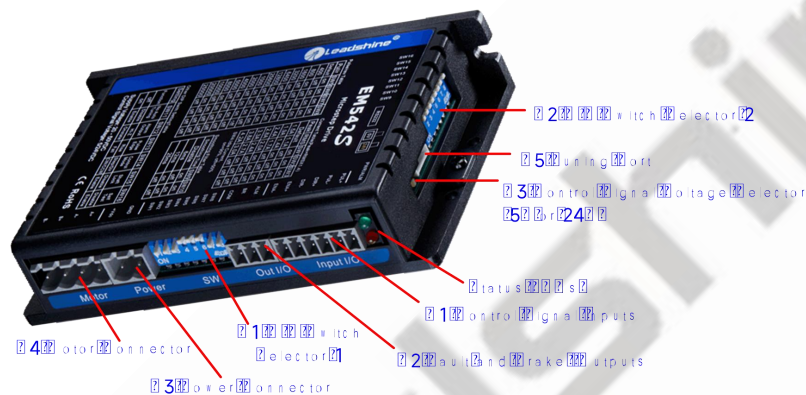

Figure 2 Connectors, DIP switches, and LED locations
DIR- (CCW-)	(6) The activated edge of PUL and DIR is set by DIP Switch SW13 (7) The factory setting of control signal voltage is 24V, must need to set S3 (figure 2) if it is 5V
ENA-	(3) ENA signal requires advance DIR signal minimum 5μs in single pulse mode (4) The default control signal voltage is 24V, to set S3 (figure 2) if it is 5V (5) Enable time to be at least 200ms
The DM542 can accept differential or single-ended control signals (pulse, direction, and enable) in open-collector or PNP connection through the P1 connector (figure 2). It is recommend to add an EMI line filter between the power supply and the drive to increase noise immunity for the drive in interference environments.
The first 8-bit is located on the side (DIP switch selector 1 in Figure 2) and used to configure settings of micro step resolution, output current, and motor standstill current as shown below, the factory setting of SW1-SW8 is **ON, ON, ON, OFF, OFF, OFF, ON, ON**.
The second 8-bit DIP switch is located on the top (DIP switch selector 2 in figure 2), and used to configure settings of control command filtering time, motor auto-configuration, fault output impedance, pulse active edge, control mode, lock shaft, and self-test as shown below, the factory setting of SW1-SW8 is **OFF, OFF, OFF, OFF, OFF, OFF, OFF, OFF**.
The Third 1-bit selector is located on the top (DIP switch selector 3 in figure 2), used to configure the voltage of control signals. For the safety of optically coupled, the factory setting is 24V, which no need to connect 2K resistors like the old drives, making it easier to use. When the voltage of the control signal is 5V, the S3 must be set to 5V, otherwise, the motor won't work.